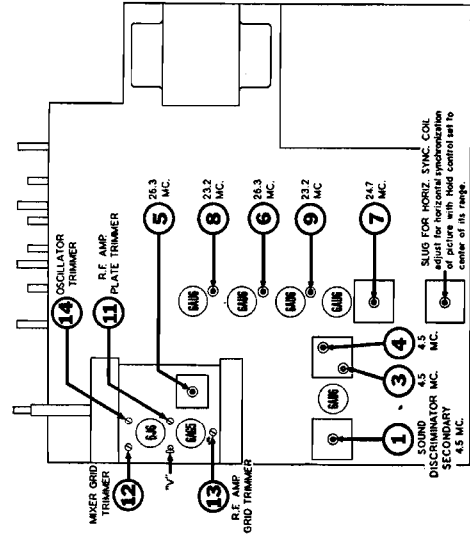

FIG. 11
A special aligning tool, designed to fit the stems on adjustable cores in the sound take-off transformer, as well as the other IF coils (see points 3, 4, 6, 7, 8 and 9 in Fig. 11) is available and may be obtained from Stewart-Warner by requesting IF Alignment Tool #507479.
6. A special aligning tool designed to fit the stems on adjustable cases of the IF coils (see points 6, 7, 8 and 9 in Fig. 11) is available from Stewart-Warner by requesting IF Alignment Tool #507473.
2. Adjust slug of Horizontal Sync Coil for picture synchronization (see location of slug in Fig. 11).